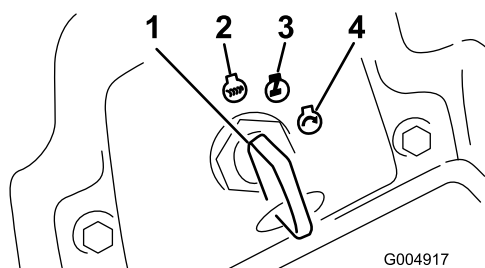

Figure 48
6. Turn the ignition key clockwise to the Run position (Figure 48).
3. Turn the ignition key to the Off position (Figure 48). Wait for all moving parts to stop before leaving the operating position.